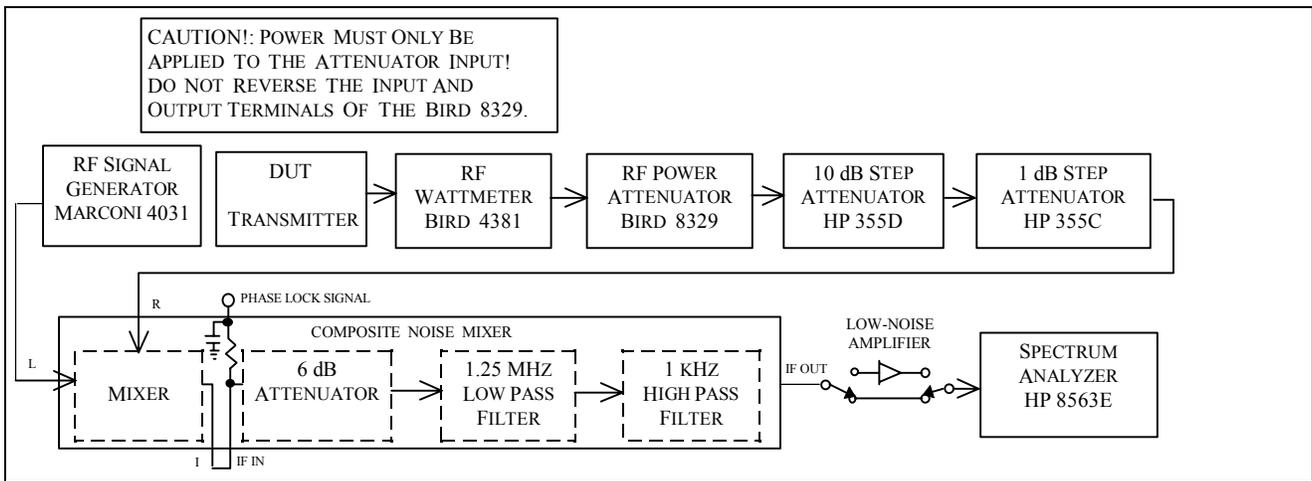

Fig. 4-11 — Composite Noise Test Hook-up
4.11.2 Test Hook-up (See Fig. 4-11)